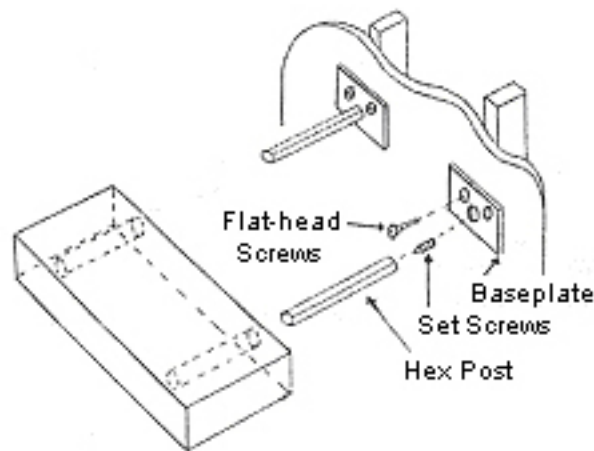

Figure 1
2. Hold a base plate centered over one of the marks, orienting it as shown in **Figure 1**. Drill a 1/8" pilot hole 1-1/4" to 1-1/2" deep for only one of the two mounting holes. Using this pilot hole, secure the base plate using a #8 x 1-1/2" (or longer) flat-head screw. Tighten the screw so the base plate is just free from rotating.